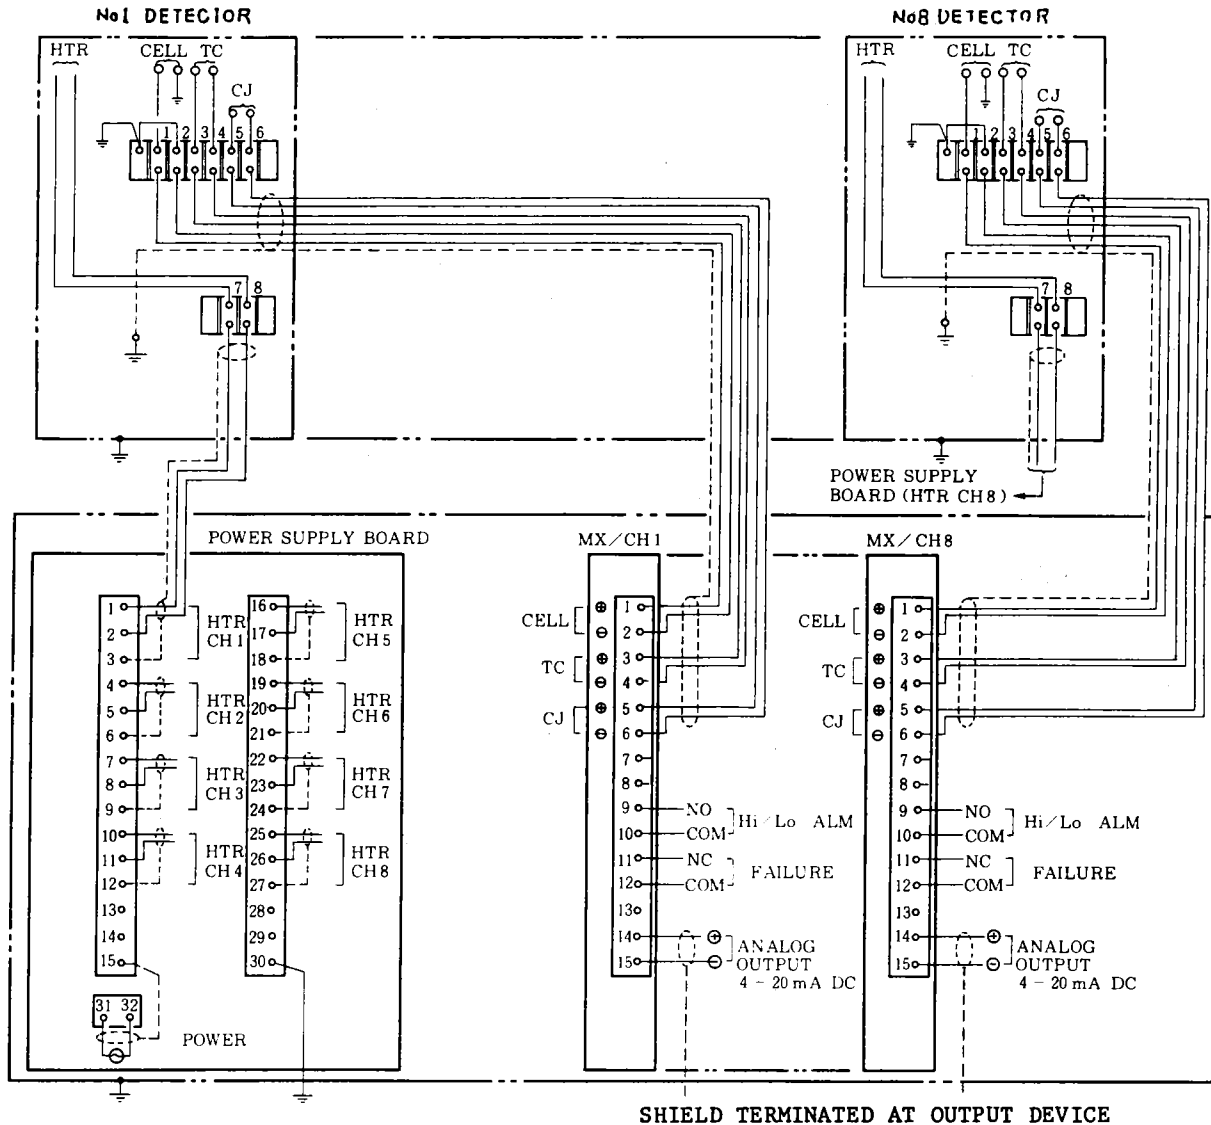
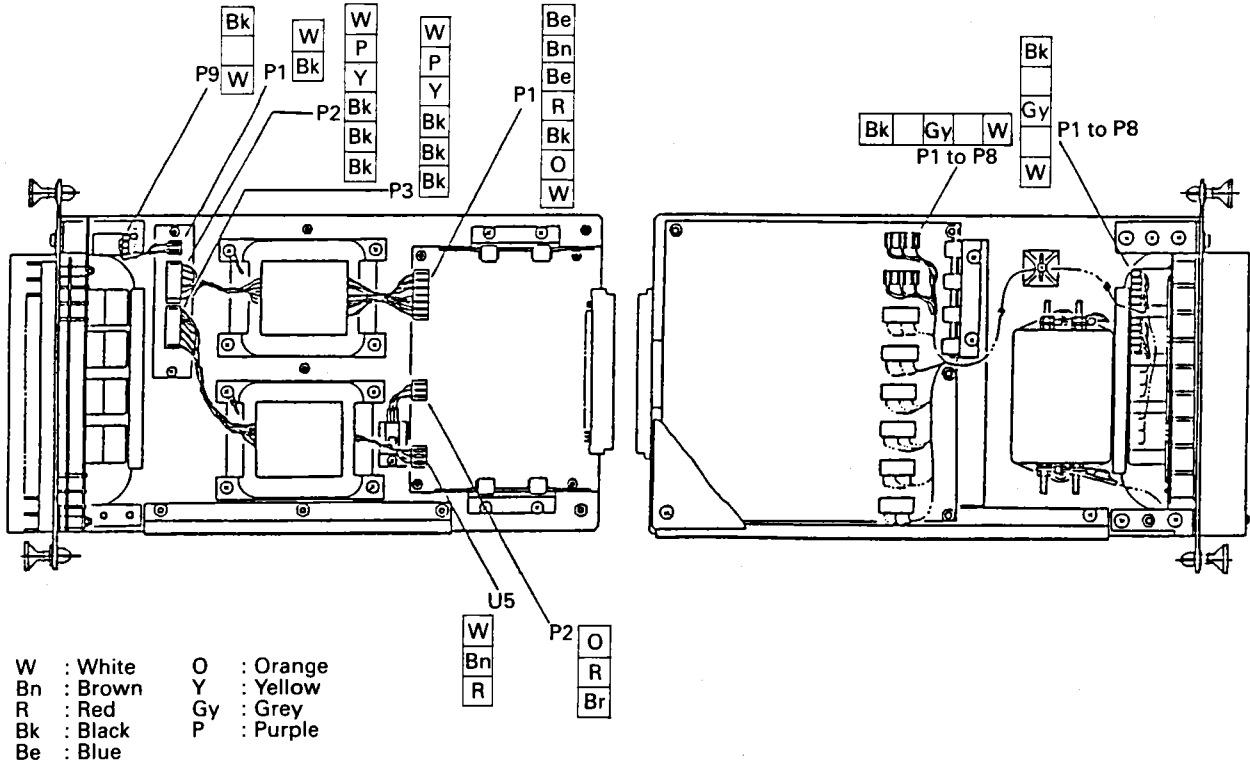
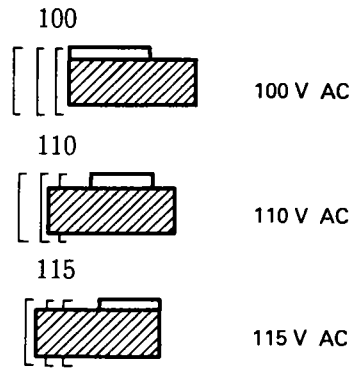

Figure 5.13 Wiring Diagram between the Converter and the Detector
Figure 6.1 Connector Position in the Power Supply Board
Figure 6.3 Connecting Position for the Power Supply and the Connectors (P1, P2)
- (1) Before turning power on please verify that all wiring is correctly connected per Figure 5.13. Then confirm the following points:
- (2) Checking the power supply.
- c. The power supply voltage to the analyzer can be selected by setting a jumper as shown in Figure 6.3. The location of this jumper on the power supply card is shown on Figure 6.1. To change the supply voltage jumper, turn off the main power supply and disconnect the wiring. Remove the shipping lock screws on either side of the nailatches, grasp the nailatches and pull the card out of the chassis. The connector wiring is color coded and shown in Figure 6.1.